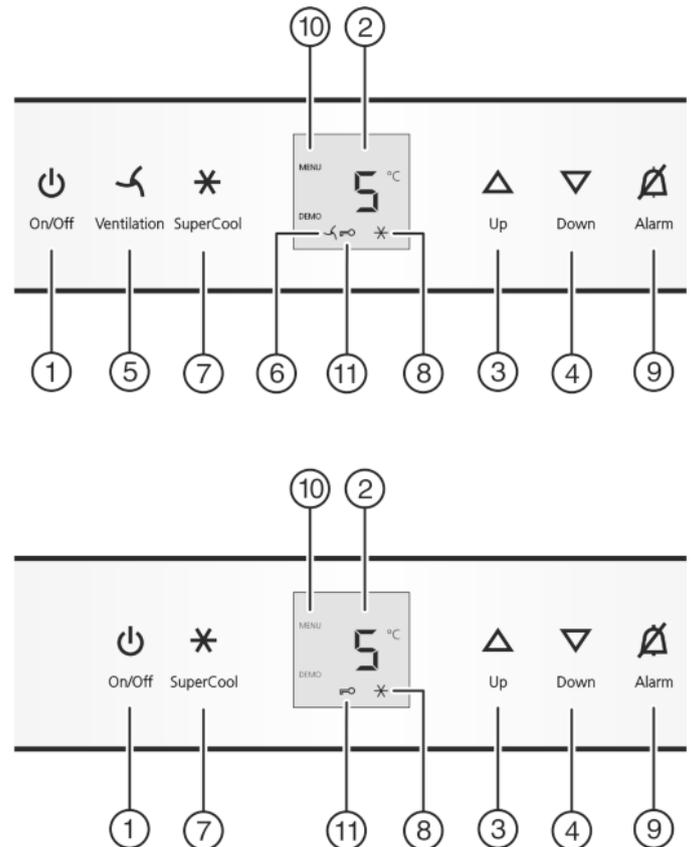

Fig. 2
- ▶ Press On/Off button Fig. 2 (1).
- ▶ To activate the setting mode: press SuperCool button *Fig. 2 (7)* for about 5 s.
- ▷ The menu symbol *Fig. 2 (10)* shines.
- ▶ Briefly press the SuperCool button *Fig. 2 (7)* to confirm.
- ▶ to activate the child lock, briefly press the SuperCool button *Fig. 2 (7)*.
- ▷ The child lock symbol *Fig. 2 (11)* shines. **c** flashes in the display.
- ▶ to deactivate the child lock, briefly press the SuperCool button *Fig. 2 (7)*.
- ▷ The child lock symbol *Fig. 2 (11)* goes out. **c** flashes in the display.
- ▶ To deactivate the set-up mode: press On/Off button *Fig. 2 (1)*.
- ▶ Press alarm button *Fig. 2 (9)*.
- ▶ For a higher temperature setting: press Up button *Fig. 2 (3)*.
- ▶ For a lower temperature setting: press Down button *Fig. 2 (4)*.
- ▶ Briefly press SuperCool button *Fig. 2 (7)*.
- ▷ The SuperCool symbol *Fig. 2 (8)* lights up in the display.
- ▷ The SuperCool symbol *Fig. 2 (8)* goes out in the display.
- ▶ Briefly press the fan button *Fig. 2 (5)*.
- ▷ The fan symbol *Fig. 2 (6)* shines.